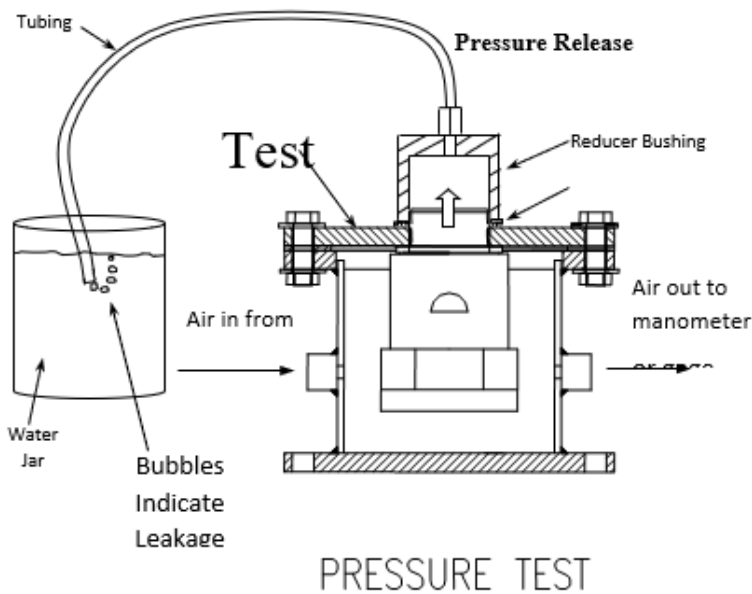

Figure 1
- 1.1.1. Screw the Normal Vent into the lid of the test tank as shown in figure 1. In order to detect leakage, attach the reducer bushing, compression fitting, and tubing. Place the end of the tubing in a water jar. The water jar is not included with the test tank.
- 2.1.1. Screw the Normal Vent into the lid of the test tank as shown in figure 1.